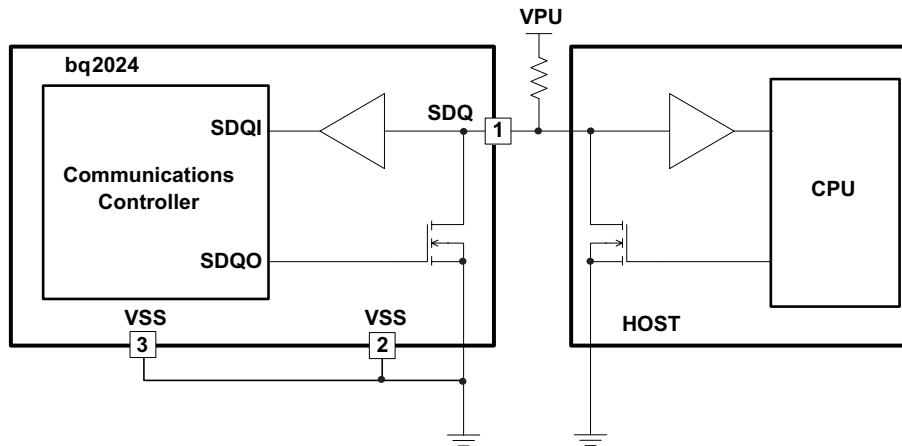

Figure 1. Typical Applications Circuit
(1) 5-kΩ series resistor between SDQ pin and V_{PU}. (See Figure 1)
(2) t_{WDH} must be less than t_c to account for recovery.
Because the drive output of the bq2024 is an open-drain, N-channel MOSFET, the host must provide a source current or a 5-k Ω external pullup, as shown in the typical application circuit in Figure 1.